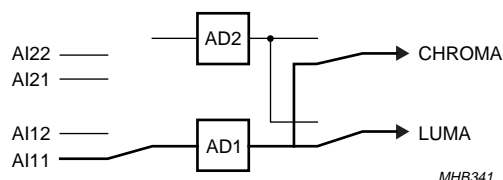

Fig.35 Mode 0; CVBS (automatic gain).
1. Mode select (see Figs 35 to 42).